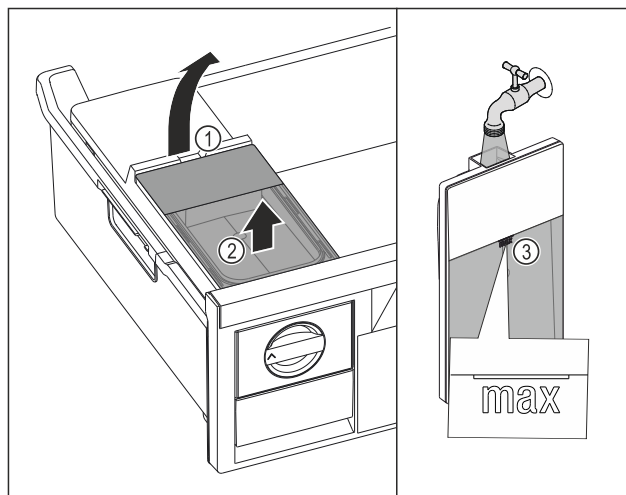

Fig. 120
- Lift the water tank at the recess Fig. 120 (1).
- Remove the water tank by lifting it upward. Fig. 120 (2)
- Fill the water tank with drinking water up to the mark Fig. 120 (3).